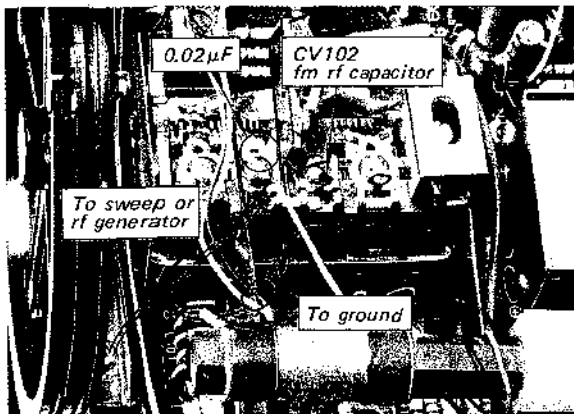

Fig. 3-4. 10.7 MHz signal injection
2. Connect the output cable of the sweep generator across CV102 on fm (a-m) front-end/i-f amp/MPX board through a 0.02μF coupling capacitor as shown in Fig. 3-4.